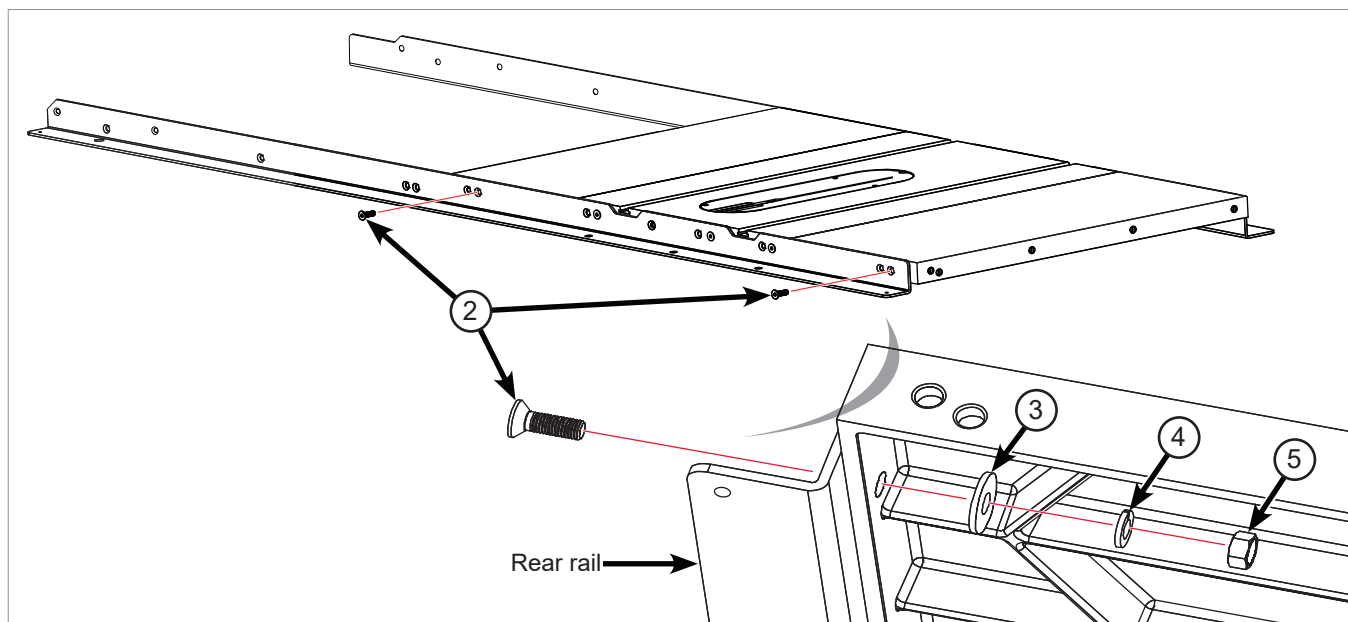

Fig. 7
5. Finish mounting the rear rail to your saw by inserting an M8 x 25 countersunk socket head bolt (2) through the open hole at the end of each extension wing, and placing an M8 washer (3), an M8 lock washer (4), and an M8 hex nut (5) on the threaded end of each bolt (See Fig. 7). Hand tighten the nuts; do not fully tighten them.